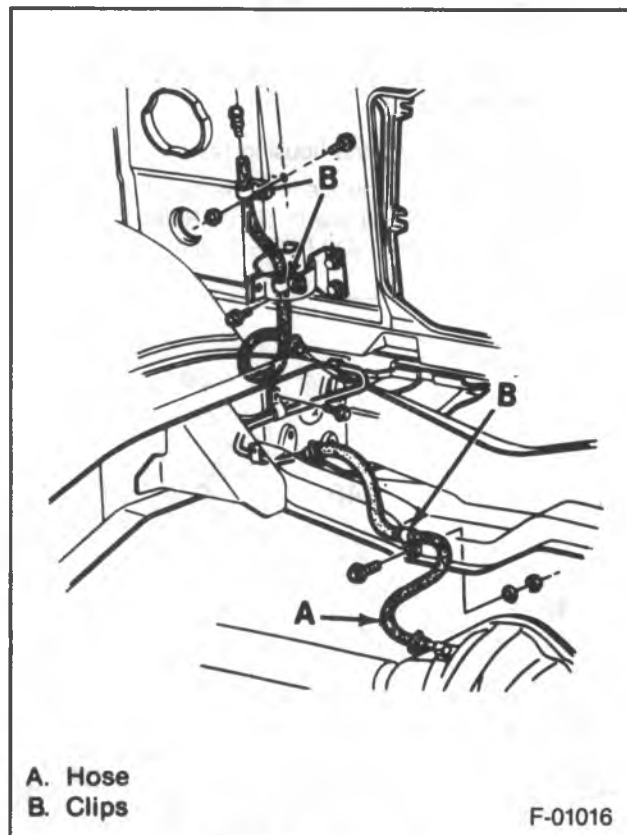

Figure 3 — Axle Vent Hose Routing
3. Brake caliper (40). Refer to HYDRAULIC FOUNDATION BRAKES (SEC. 5A2).
- Support the brake caliper (40) so as not to stretch or damage the brake hose.
6. Axle vent hose and clips (figure 3).
2. Axle vent hose and clips. Refer to figure 3.
5. Brake caliper (40). Refer to HYDRAULIC FOUNDATION BRAKES (SEC. 5A2).